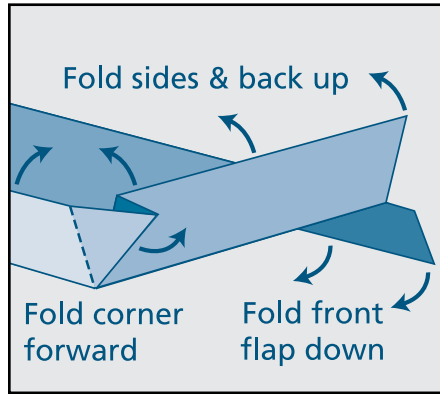

Fig. 4 Fold sill pan
- Fold the three 1/2" sides up; use duckbill pliers to fold corners to outside of pan on short sides (**Fig. 4**).